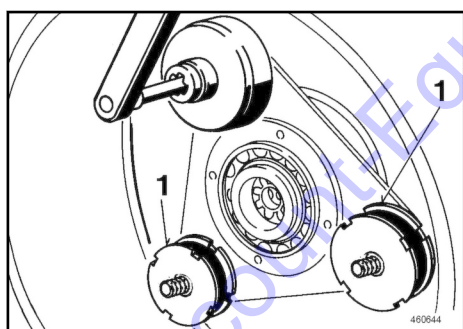

Fig. 220
1. Disassemble the rubber buffers 1 ↪ Fig. 220.